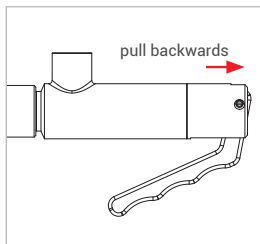

Figure 7
- ▶ Pull lightly on the connector (red arrow Figure 7) in the direction opposite that of the connection to make sure that the connector is firmly in place.